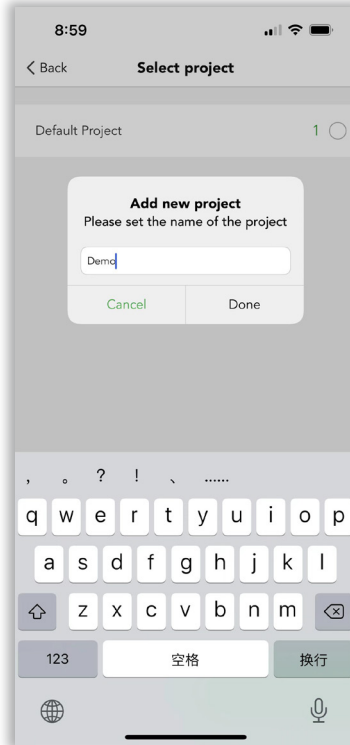

Figure 3.2 Zone page
2. Create a project and name it, like "Demo" (see figure 3.2).